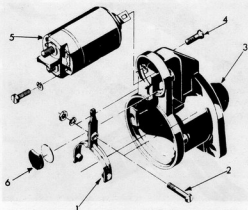

Fig. 10.13. Exploded view of the starter motor rear end casing (Sec. 16)
- 5 Undo the nut and remove the bolt which is the pivot for the pinion carriage actuating lever, mounted in the rear end casing (Fig. 10.13).